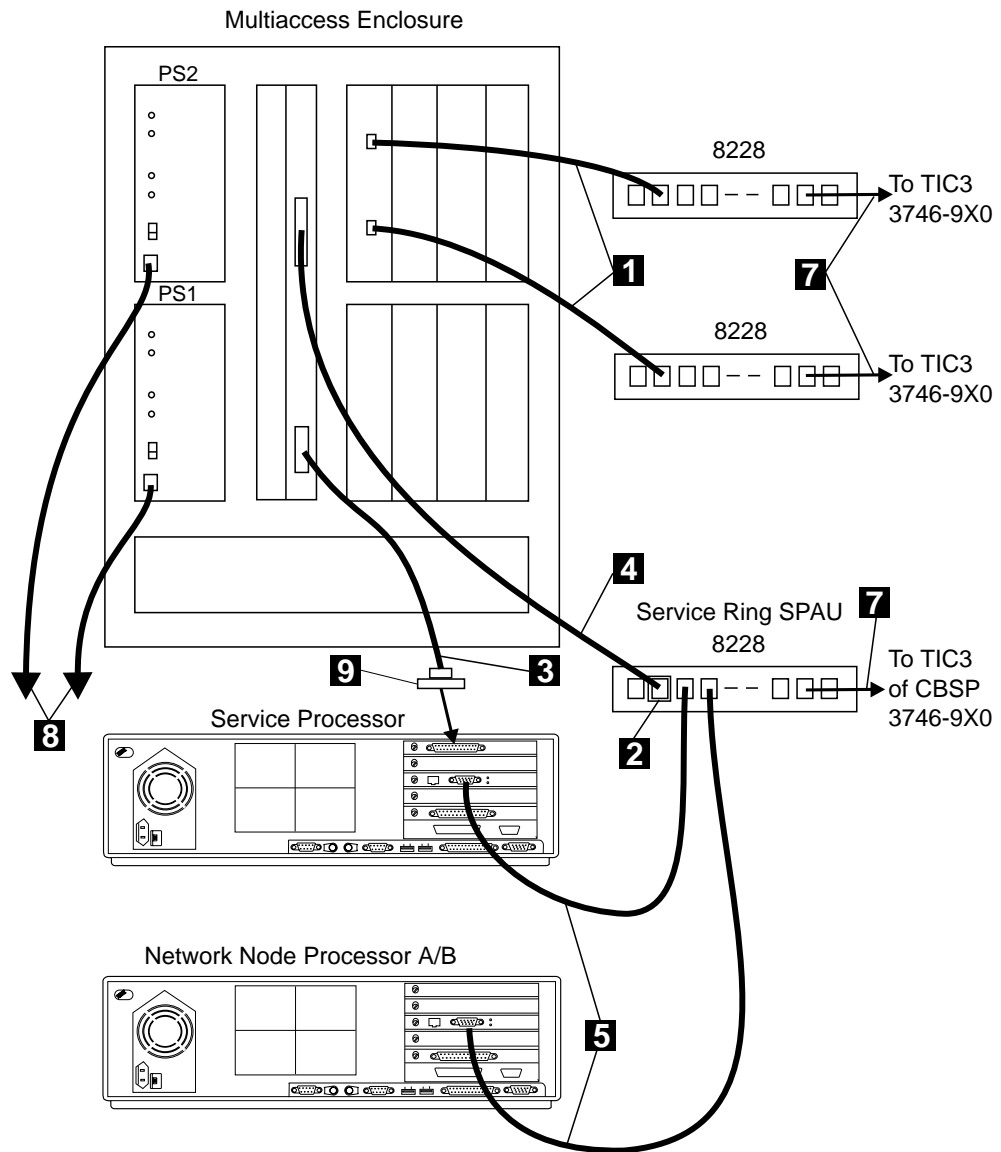

Figure 1-15. Cabling the Multiaccess Enclosure to a 7585
2. If required and before starting the installation be sure that two TIC3 and two token-ring cables are available to connect the MAE to the 3746-9X0. Refer to Figure 1-15 on page 1-12, these cables **6** connect the 8228 to the TIC3. The standard cable shipped with a TIC3 is PN 72F1236 (9M, 30Ft).